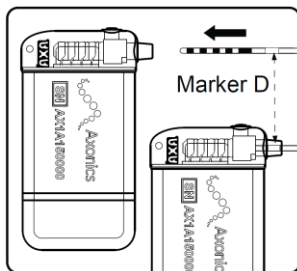

Figure 5: Insert Lead Fully into the Neurostimulator Connector Block.
4. Insert the lead into the Neurostimulator connector block until fully seated and the lead cannot be inserted further. Marker D on the lead should be inside the Neurostimulator strain relief (**Figure 5**). The retention sleeve on the tined lead should be positioned under the Neurostimulator setscrew.
3. Use the torque wrench to loosen the setscrew in the Neurostimulator connector block by turning it counterclockwise (**Figure 5**).